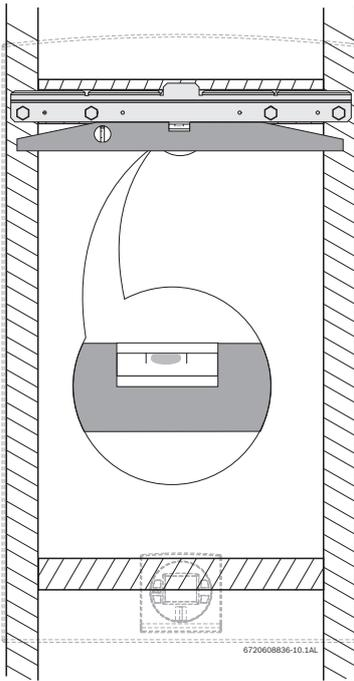

Fig. 21 Leveling wall mounting bracket
- ▶ Secure the wall mounting bracket provided with the heater to a wall surface. The heater must be kept level on the wall surface, see Fig. 21, page 22.